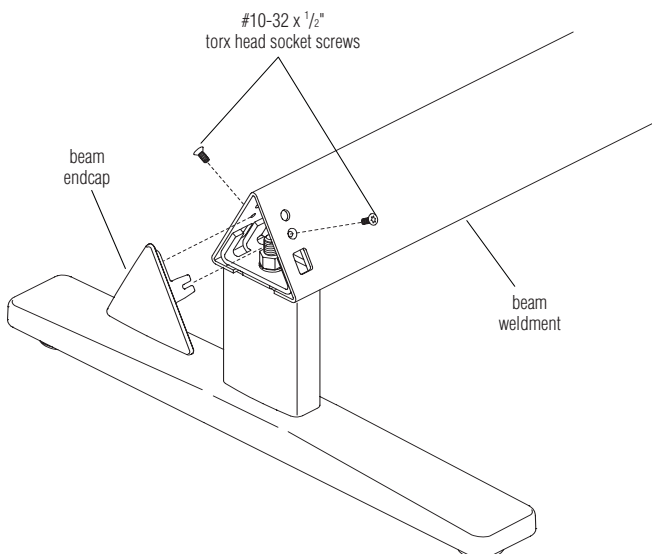

Figure 4
1. Insert the beam endcap into the end of the beam weldment. Hold the endcap firmly in place while securing with two #10-32 x 1/2" torx head socket screws (Figure 4).